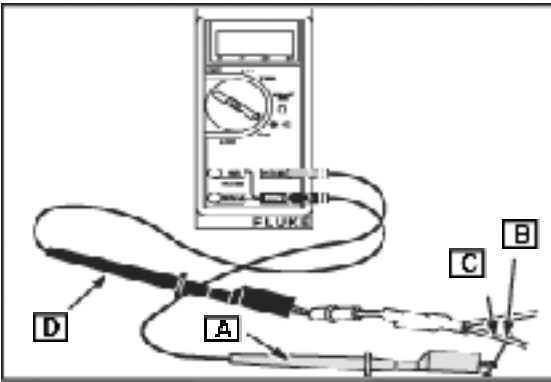

Fig. 33
4. Attach RED test lead clip (A) to point (B) of the WHITE wire (C), FIG.33. (It may be necessary to pierce wire with a pin as shown.)
5. Insert BLACK test lead probe (D) into harness connector.